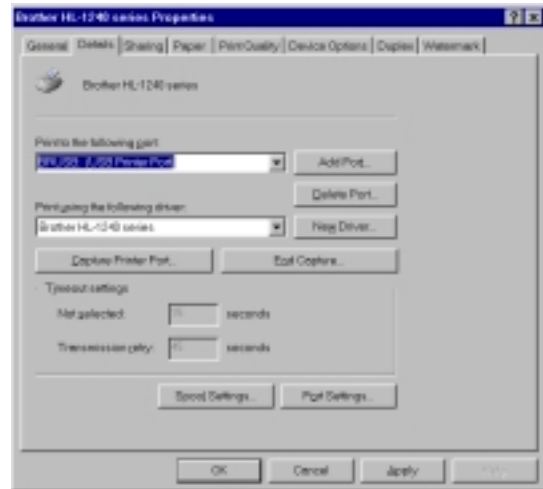

Fig. 2-21
- (1) Click the **Start** button and select Printers in Settings.
- (2) Select your printer model icon in Printers so that the printer icon is highlighted.
- (3) Select Properties from the File menu, then click the Details tab.
- (4) Select **BRUSB: (USB Printer Port)** in the “Print to the following port” box. (Fig. 2-21)
- (5) Click the **OK** button to close the Properties dialog box. The setup is now completed.